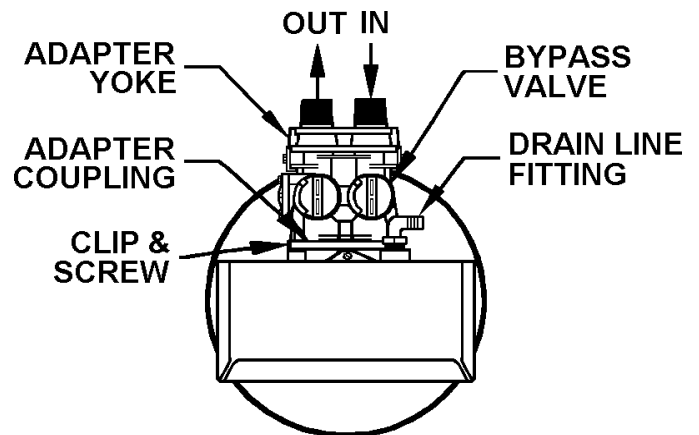

**Figure 2. FILLING MEDIA TANK**
Step 1. (a) Add media thru fillport adaptor using funnel (See Figure 2). Fillport cap can be removed by removing quick release clip. NEVER ADD MEDIA ABOVE LINE INDICATED ON SIDE OF TANK. You may have received more media than required for the initial fill, save extra media for future replenishment.